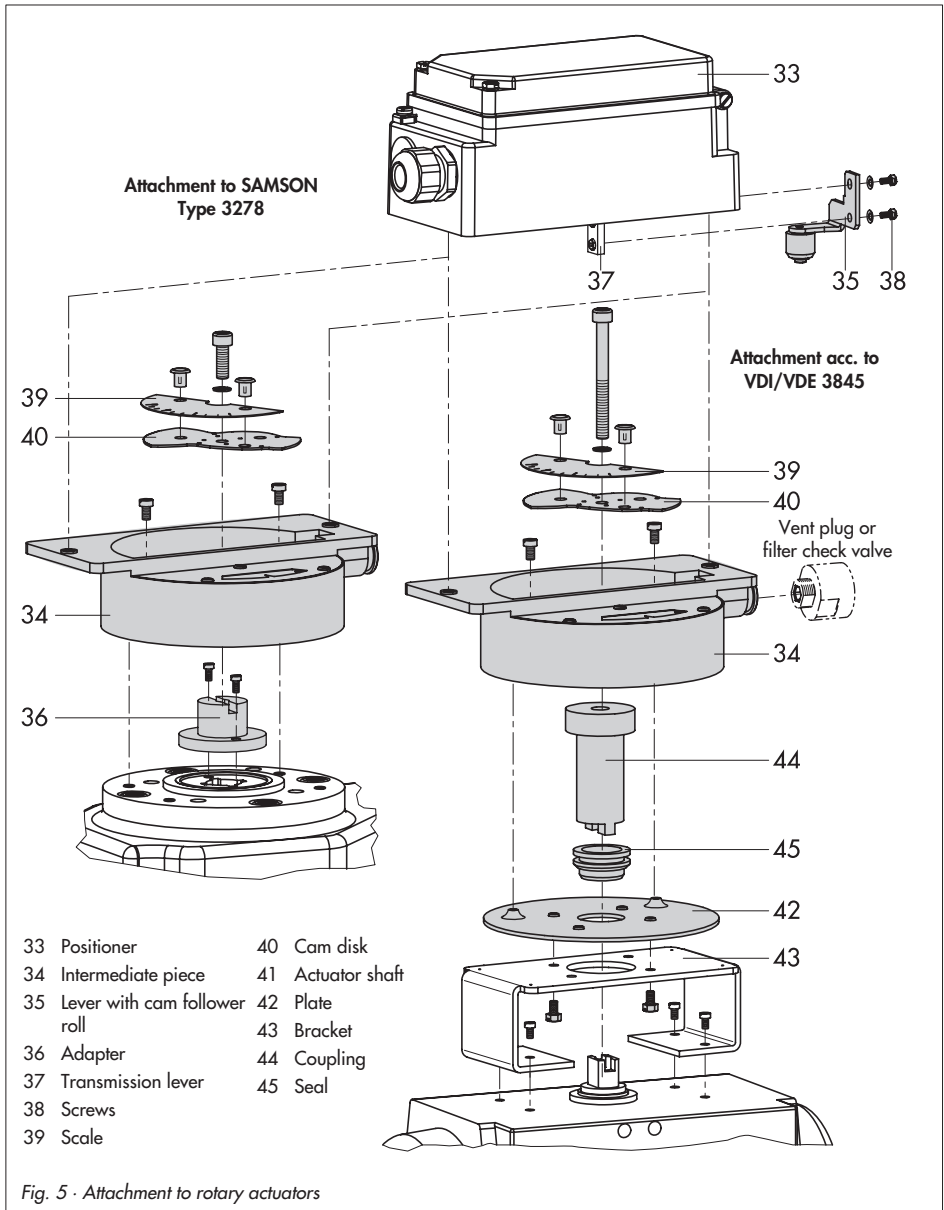

Fig. 5 - Attachment to rotary actuators
1. Adjust the shaft (25) in the adapter housing so that the black pointer (24) is aligned with the cast marking on the adapter housing.
2. Screw clamping plate (22) tight in this position using a screw (23).
3. Screw in the pin (27) at the positioner lever (26) on the side of the insert nuts and secure it with a hex nut on the opposite side. Note the mounting position A or B respectively according to Table 5 and Fig. 5.
4. Put the positioner to the adapter housing such that the pin (27) lies properly within the arms of the bracket (28). To do so, insert a 2.5 mm Allen key or a screwdriver from the front into the bore located below the oblong hole on the cover plate, and push the positioner lever in the required position.